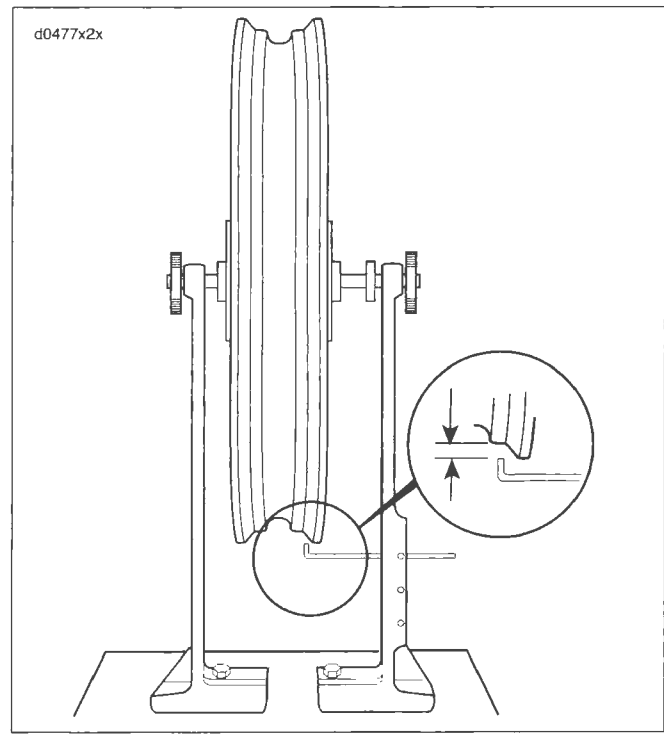

Figure 2-43. Truing Rim Radially
1. See Figure 2-43. Adjust truing stand gauge to the rim's tire bead seat as shown. The rim should be trued within 0.031 in. (0.79 mm).